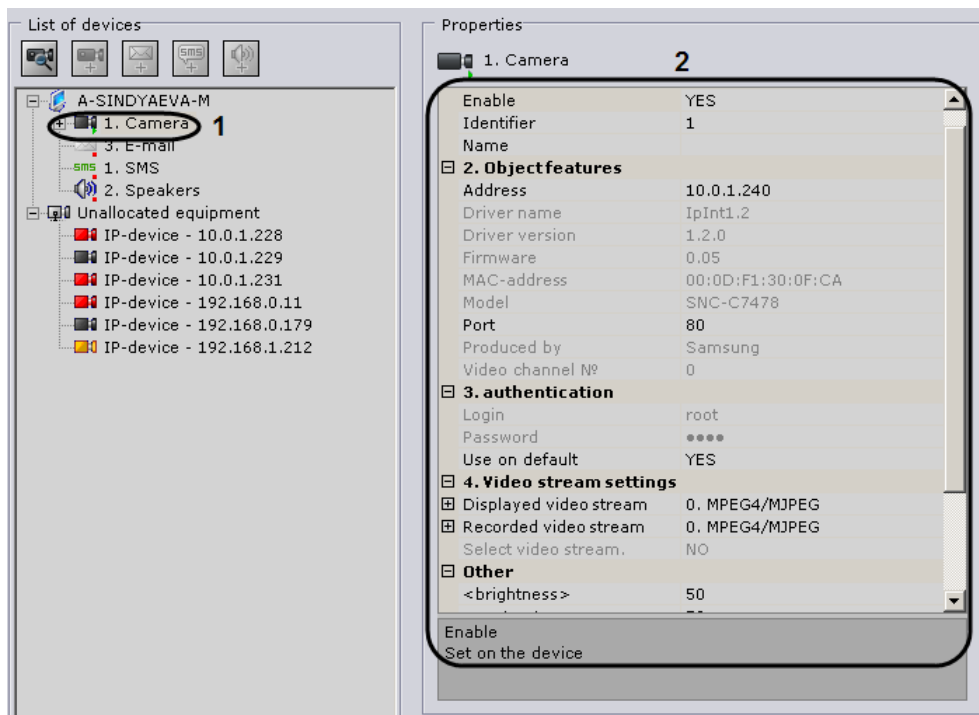

Fig. 6.3—1 Configuring a Camera Object
1. Highlight the object in the list of devices on the server (Fig. 6.3—1, 1).
The configuration field for the selected object will be displayed in the area on the right (see Fig. 6.3—1, 2).